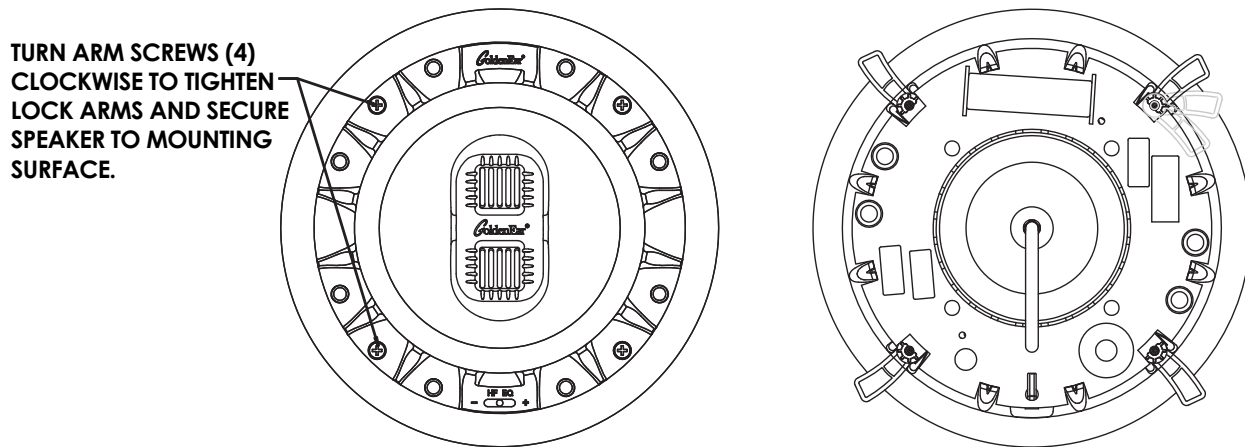

Figure 7
- While holding in place, tighten the four lock arm screws with a screwdriver (Figure 7). This will rotate the lock arms and secure the speaker to the wall/ceiling. **DO NOT OVERTIGHTEN** the lock arm screws as this could damage the drywall. If you are using a power screwdriver or drill, set the torque to a value of no more than 7 in.-lb (8dN-m).